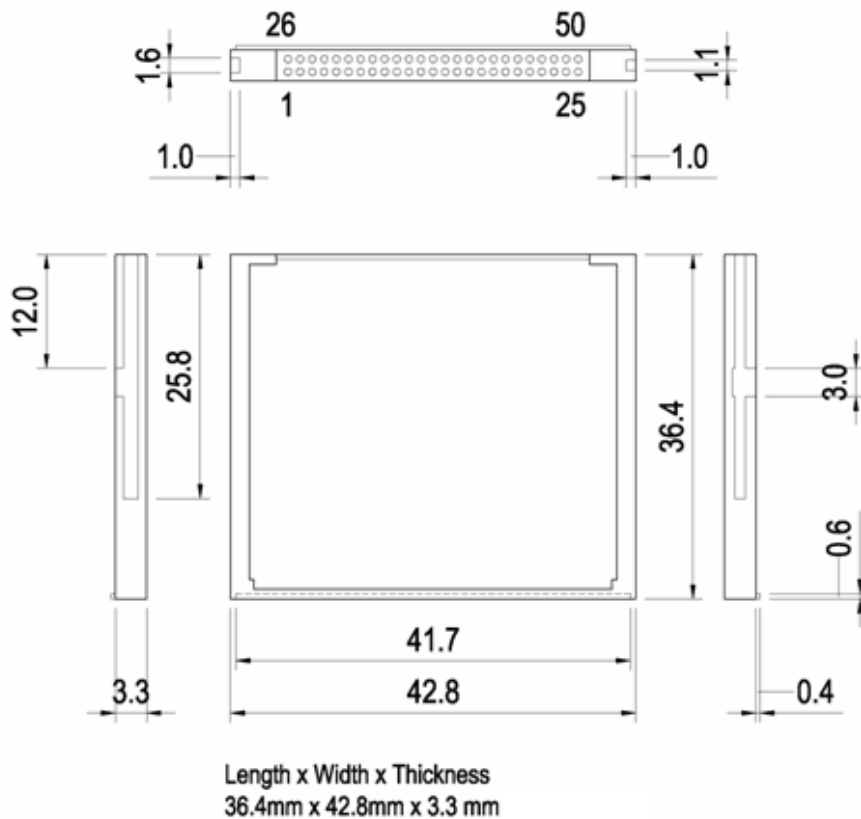

Figure 2: CompactFlash Card Dimension
Refer to Table 5 and see Figure 2 for APRO CompactFlash (CF) Card HERCULES-N Series physical specifications and dimensions.